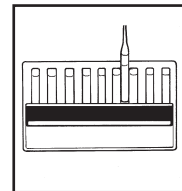

Figure 2
4. **Immediately** obtain a test result by gently placing the ampoule, flat end first, into the comparator. Hold the comparator up toward a source of light and view from the bottom. Rotate the comparator until the best color match is found (fig. 2).